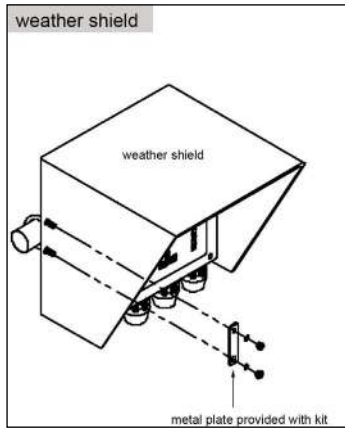

Figure 3.4
2. At step 3 (surface mount) or step 4 (rail mount), attach the weather shield to the surface or rail with the metal plate installed to secure the weather shield to the surface or rail. Figure 3.4 shows the weather shield installed for a rail mounted IOEM and REM.